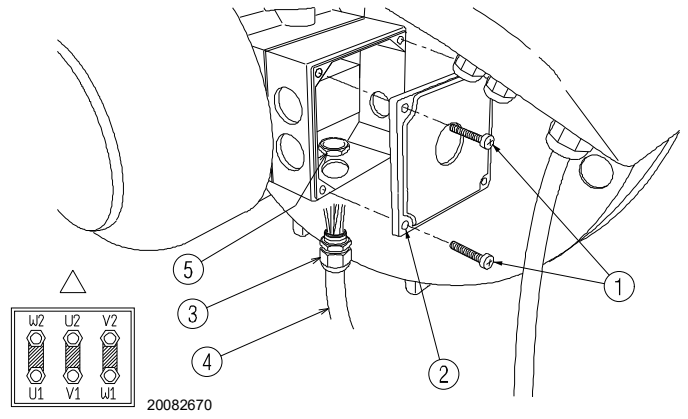

Fig. 23
- to access the motor casing, loosen the four screws 1)(Fig. 23) and remove the cover 2);
- install the cable 4) with its relative coupling on the motor casing, fixing it carefully in place with the ring nut 5)(Fig. 23);
- make a final visual check, then close the motor casing by tightening the 4 screws 1)(Fig. 23).